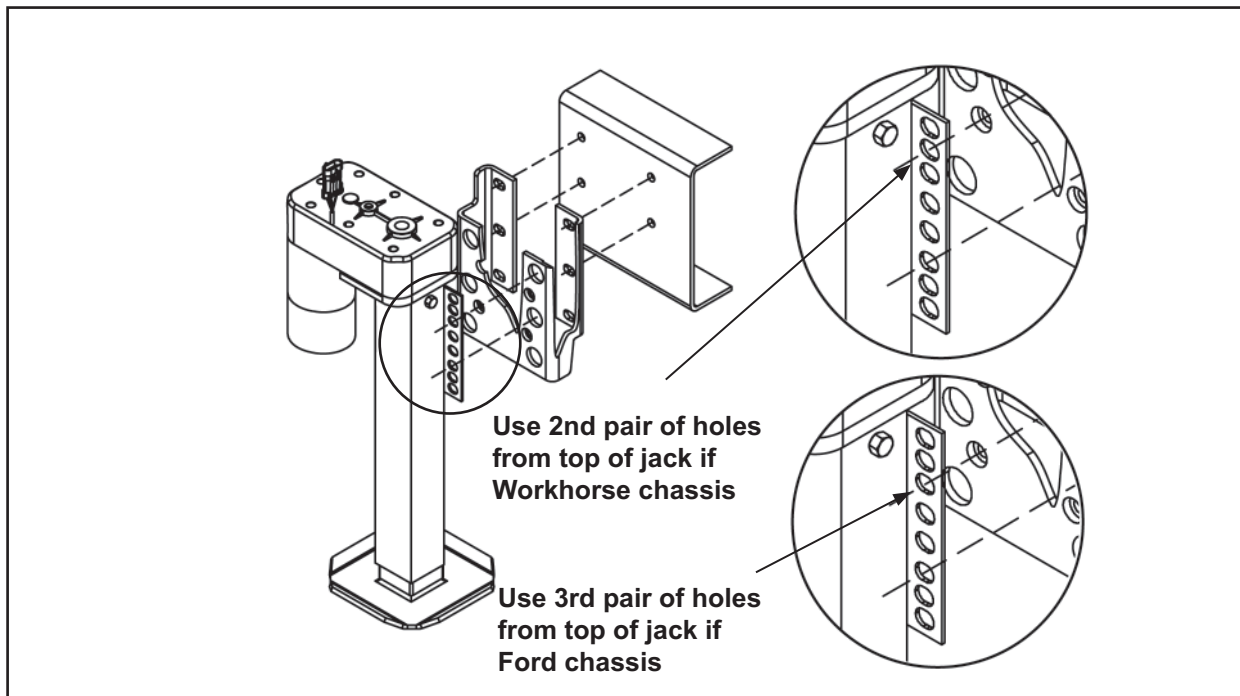

Figure 7
- Mount the jack in the 2nd pair of holes from the top of the jack leg if a Workhorse chassis, or the 3rd pair of holes from the top if a Ford chassis. See Figure 7.